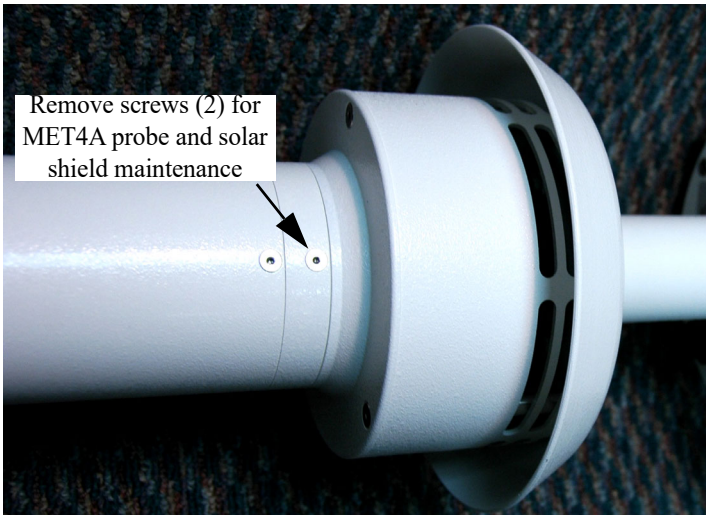

FIGURE 13-2: Gaining Access to MET4A Probe & Solar Shield for Maintenance
2. Refer to Figure 13-2. "Gaining Access to MET4A Probe & Solar Shield for Maintenance". Remove the two uppermost screws on the side of the aspirated solar shield.
2. Refer to Figure 13-2. Gaining access to MET4A probe and solar shield for maintenance. Remove the two uppermost screws on the side of the aspirated solar shield.
It is imperative that you vertically align the Model 765 and MET4/MET4A barometers to minimize the effects of head pressure during the field assessment. Refer to Figure 13-2 on page 99 for alignment details.